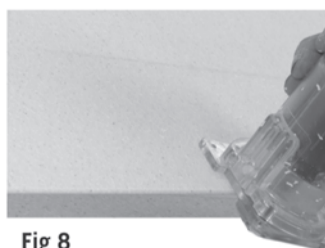

Fig 8
4. Always use a router to create the finished edge. (Fig 8)